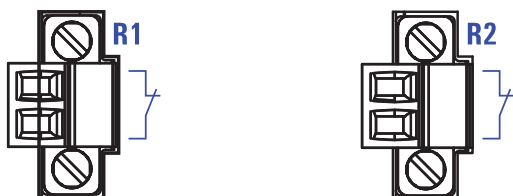

Figure 3: Pin assignment of the signal contact
- ▶ The signal contact (“FAULT”, for pin assignment of terminal block, see fig. 3) monitors the functioning of the device, thus enabling remote diagnostics. You can specify the type of function monitoring in the Management.